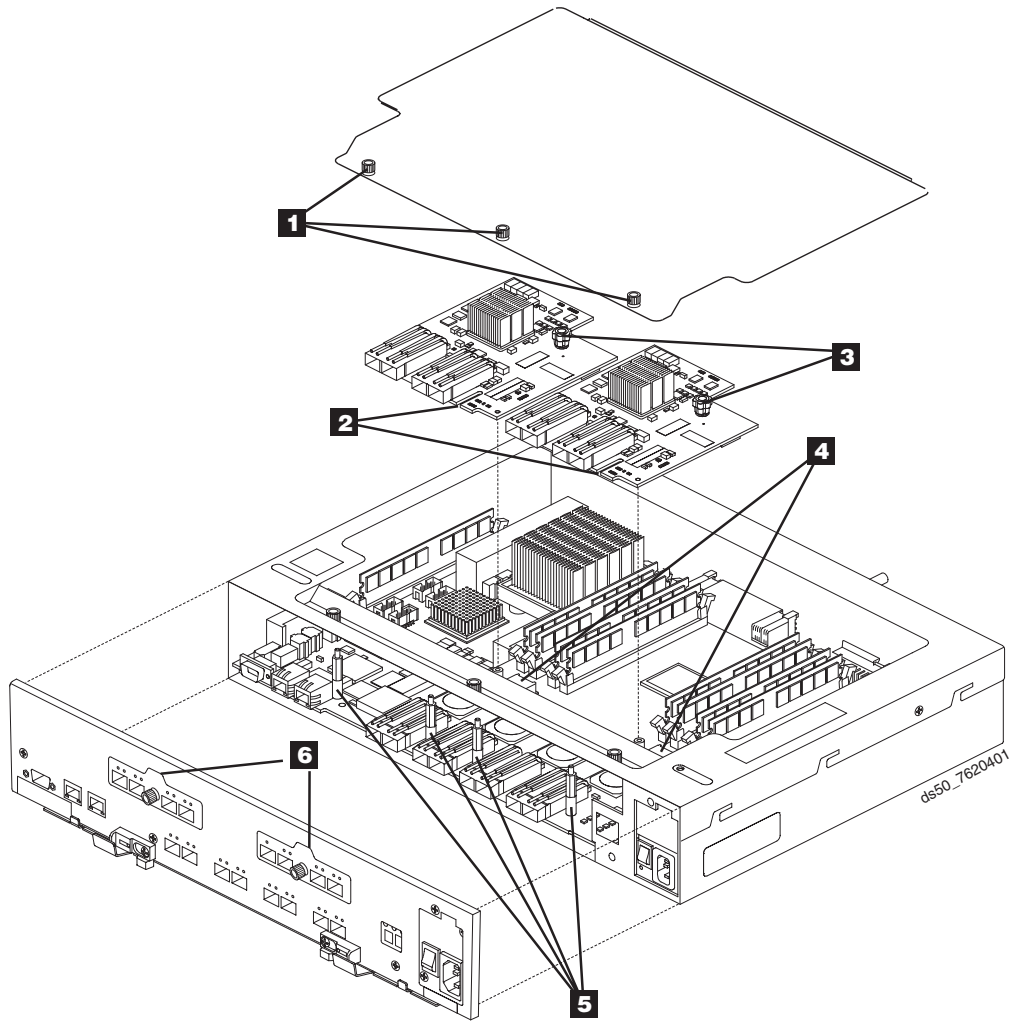

Figure 125. Removing controller cover and replacing host interface card
14. Remove the top cover as shown in Figure 125 on page 202.
Table 56 describes the numbered locations identified in Figure 125.
22. Reinstall the host interface card port cover you removed in step 18 using the thumbscrew. See Figure 125 on page 202 for an illustration of a host interface card port cover.